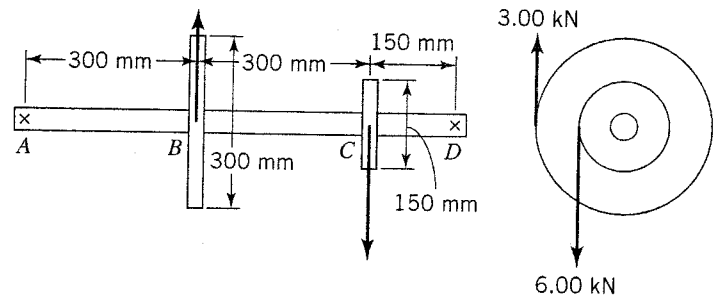

FIGURE P4.33
4.33. The shaft in Figure P4.33 is supported in flexible bearings at  $A$  and  $D$ , and two gears  $B$  and  $C$  are attached to the shaft at the locations shown. The gears are acted on by tangential forces as shown by the end view. The shaft is made of a ductile steel having a yield stress  $Y = 290 \text{ MPa}$ . If the factor of safety for the design of the shaft is  $SF = 1.85$ , determine the diameter of the shaft using the maximum shear-stress criterion for the initiation of yielding failure.